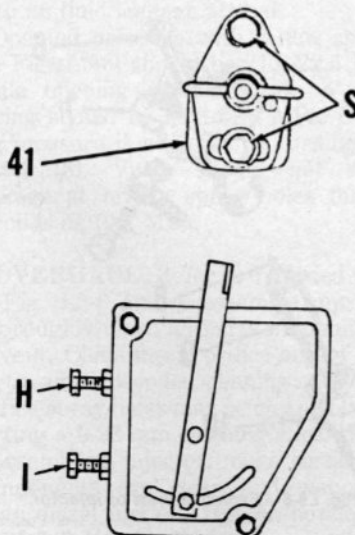

Fig. L5-1 — Refer to text for engine speed adjustment.
Idle speed is adjusted by turning idle speed screw (I—Fig. L5-1). Idle speed should be 1000-1100 rpm. Maximum governed speed is adjusted by turning high speed screw (H). Maximum governed speed under load should be 2200 rpm for Models L8, L10 and L14, 2600 rpm for Models LDA100 and LDA820, and 3000 rpm for Models LDA96, LDA450 and LDA510.